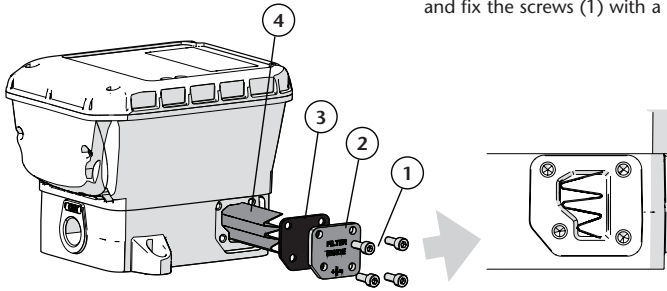

Fig. 10
Mount the strainer in its place verifying its correct position (fig. 10). Mount the gasket (3), place the metal cover (2) and fix the screws (1) with a minimum torque of 6 N.m.